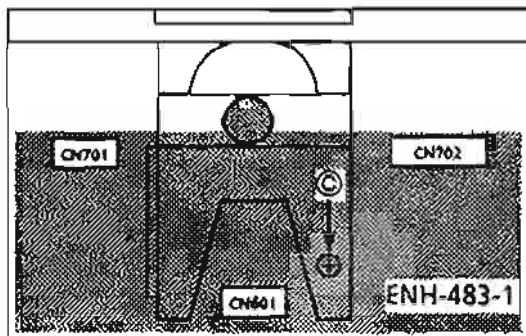

Fig. 3 UP SIDE
2. Remove the 2 screws **Ⓑ**. Disconnect the CN601. (Fig.3)
2. Disconnect the CN701 and CN702. (Fig.3)